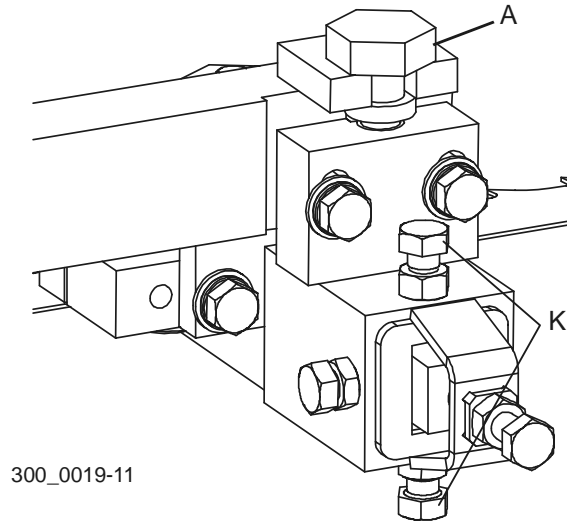

FIG. 5-10
See Figure 5-10. Loosen the jam nuts on bolts (K). Adjust the bolts up to tilt the blade down. Adjust the bolts down to tilt the blade up. Retighten the jam nuts and recheck the